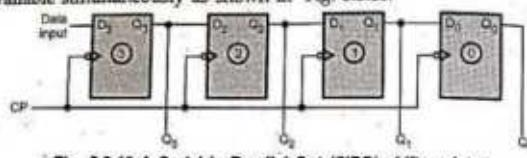

Fig. 5.8.10 A Serial In Parallel Out (SiPO) shift register
- Once the data are stored, each bit appears on its respective output line and all bits are available simultaneously as shown in Fig. 5.8.10.